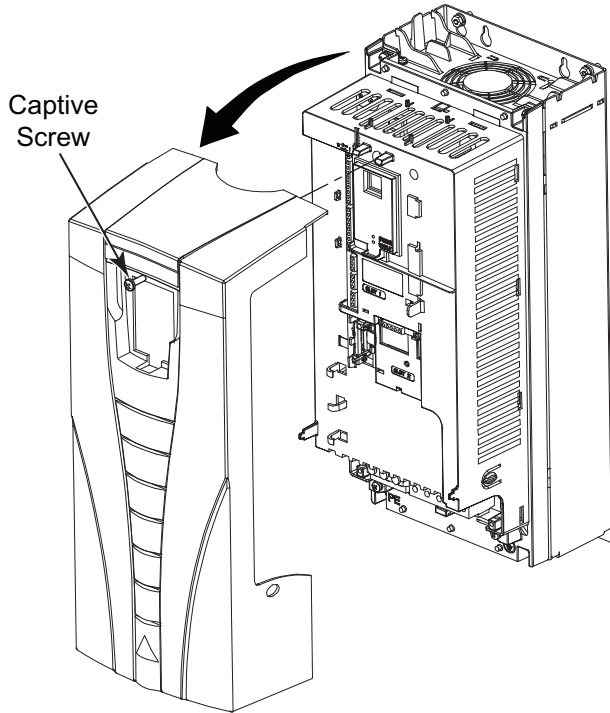

Fig. 39 — Remove AHC550 VFD Front Cover
2. Remove the drive cover (see Fig. 39).
2. Remove drive cover (see See Fig. 39 — on page 31).